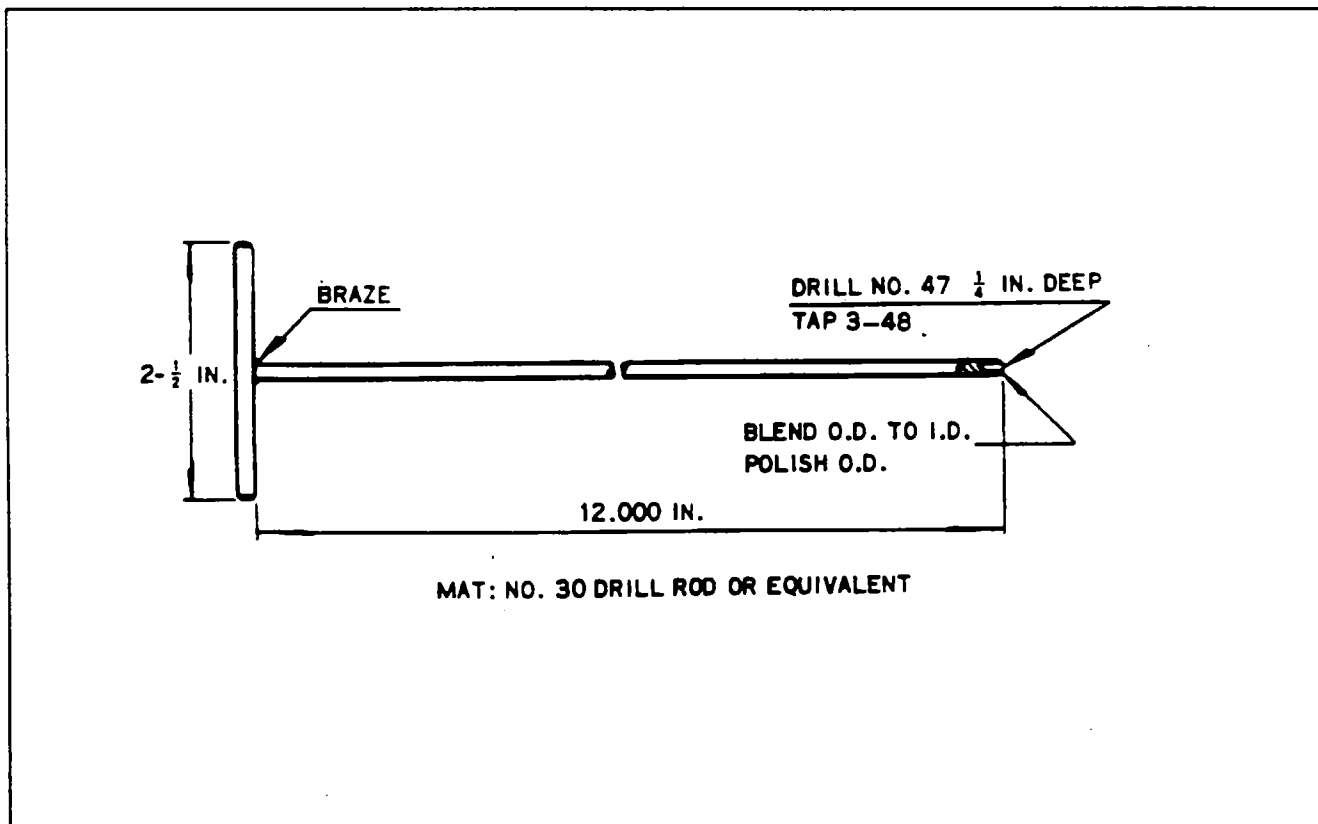

Figure 74-15. Assembly Tool
- A. Fabricate a tool as shown in Figure 74-15 for installing the insulating sleeves over the cable terminals.